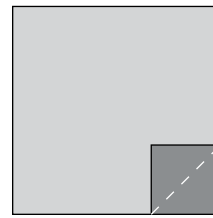
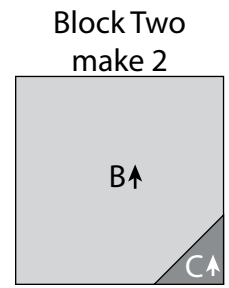

Fig. 6
Fig. 7
3. Place (1) 5 ½" Fabric C square on the bottom right corner of (1) 15 ½" Fabric B square, right sides together (Fig. 6). Sew across the diagonal of the smaller square from the upper right corner to the lower left corner (Fig. 6). Flip open the triangle formed and press. Trim away the excess fabric from behind the triangle ¼" away from the sewn seam to make (1) Block Two square (Fig. 7). Repeat to make a second Block Two square.